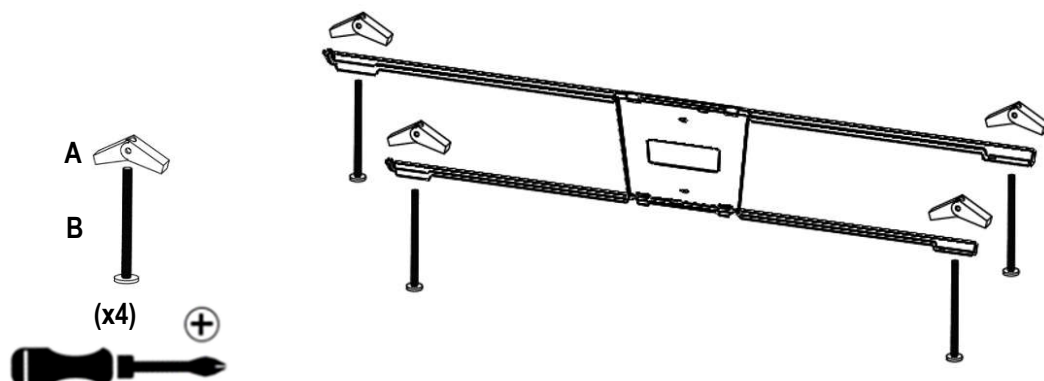

Figure 5A
- (For drywall ceiling): mount bracket with four (4) toggle bolts (provided).
- Bolts go through holes on each end of hanger brackets, and then threaded into toggle nuts, see Figure 5A.